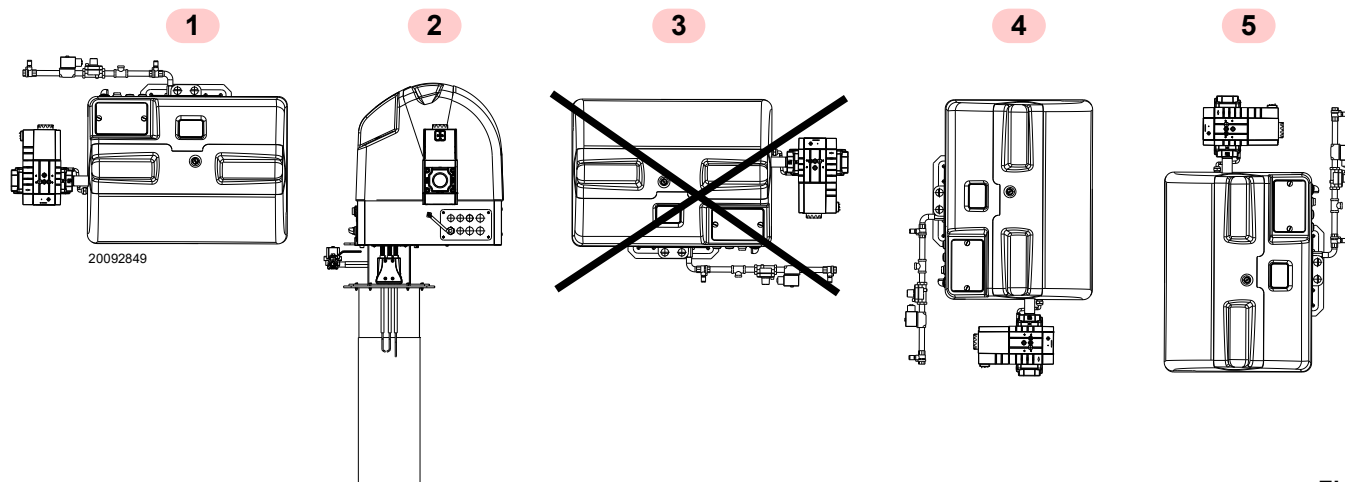

Fig. 14
- The burner is designed to operate only in positions **1**, **2**, **4** and **5** (Fig. 14).